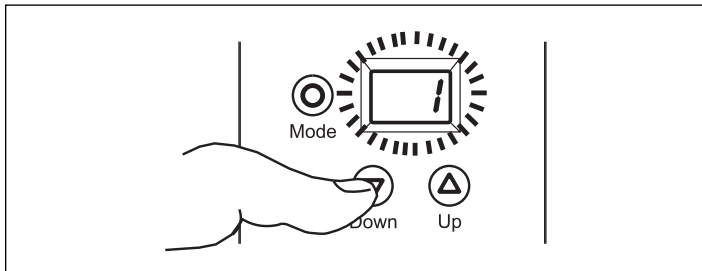

Figure 20
Press the  button again to make adjustments. Use the up  or down  button to activate (1) or deactivate (-) (Figure 20). Press the  button to save the change.